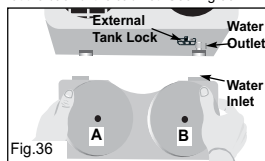

Fig.36
2. Position the external water tank, making sure the inlet on the water tank is aligned with water outlet at the back of the cabinet. See Fig 36.
- In order to avoid spillage when emptying the external water tank, remove cover "A" (as identified in fig. 36) and carefully tilt the uncovered portion of the external tank towards the sink.